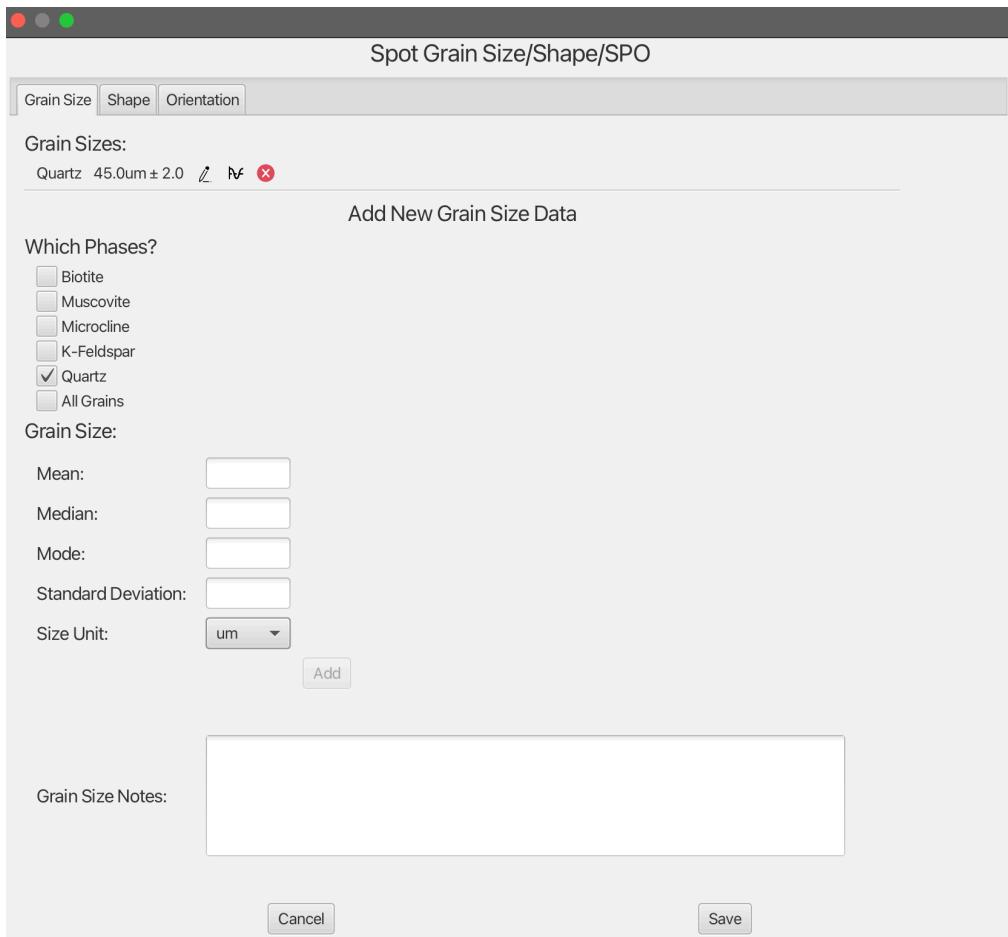

Figure 26: Grain Size data modal with fields for entering quantitative grain size information.
- **Grain Size:** Enter modal or observed grain sizes. (See Figure 26.)